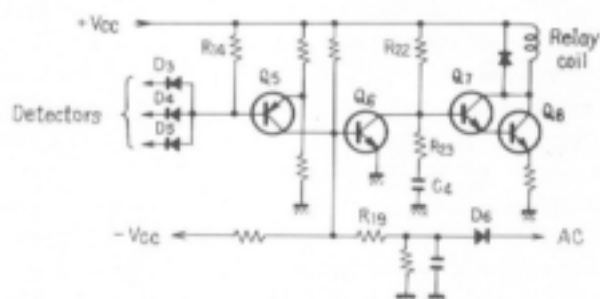

Fig. 8. Schematic diagram of relay driver circuit
1. Relay Driver Circuit (Fig. 8)